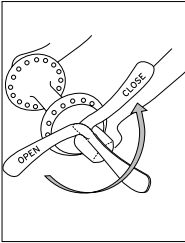

FIGURE 47:
2. Lock the Clix; with the lever in the palm of your hand, move the lever as shown in Figure 47 to the CLOSE position.